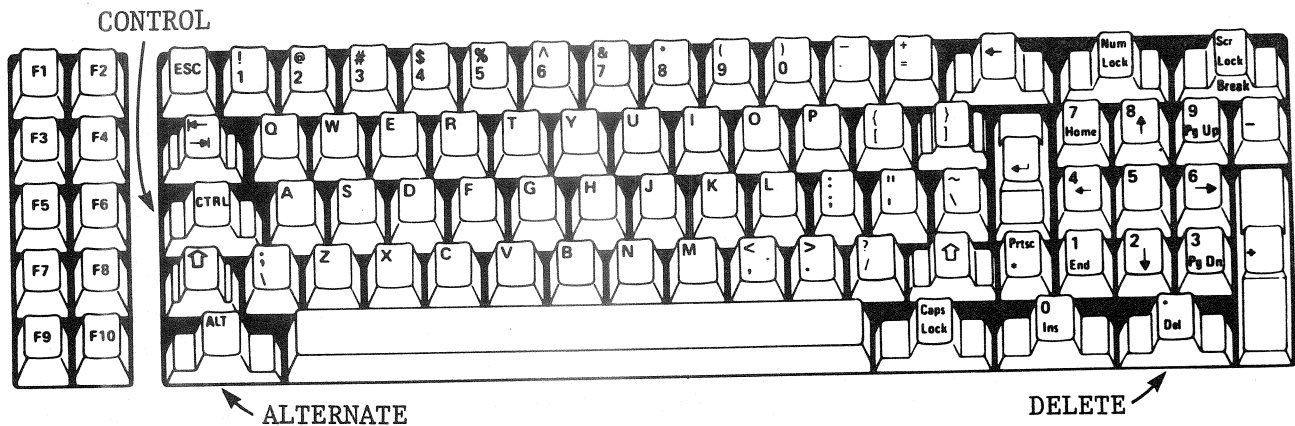

Figure 5-4. Startup Key Locations
Then release the keys. (See Figure 5-4.)
Step 4 - Press the Enter key (↵) twice. (See Figure 5-4.) This causes the previous time and date on the DOS to be accepted. Of course the current date and time can be entered, if desired. When these entries are completed, the "A prompt" is displayed. It is called "A prompt, but is displayed as A .